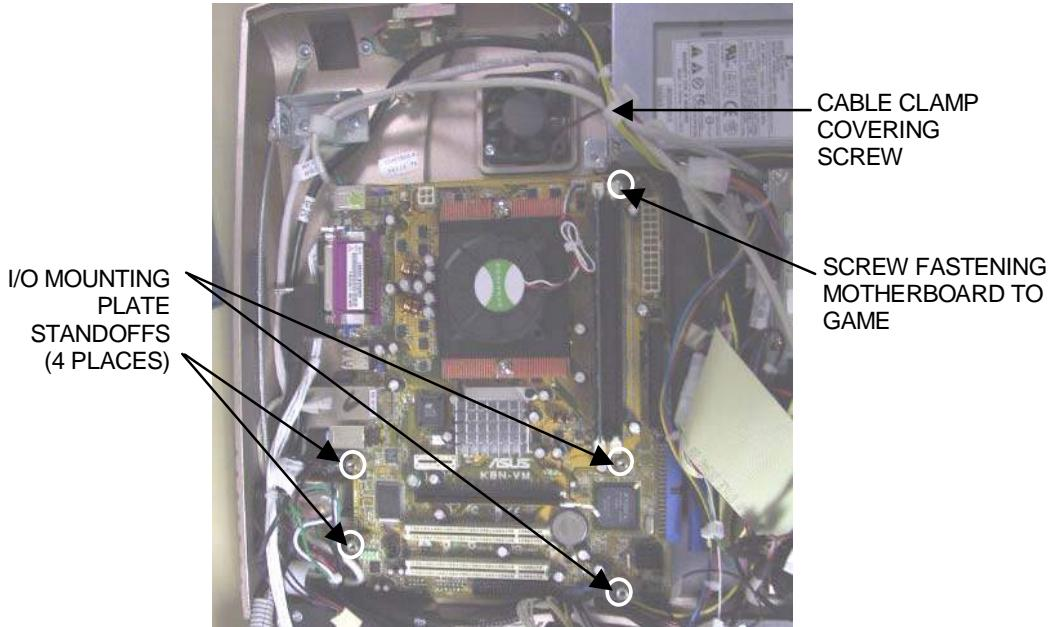
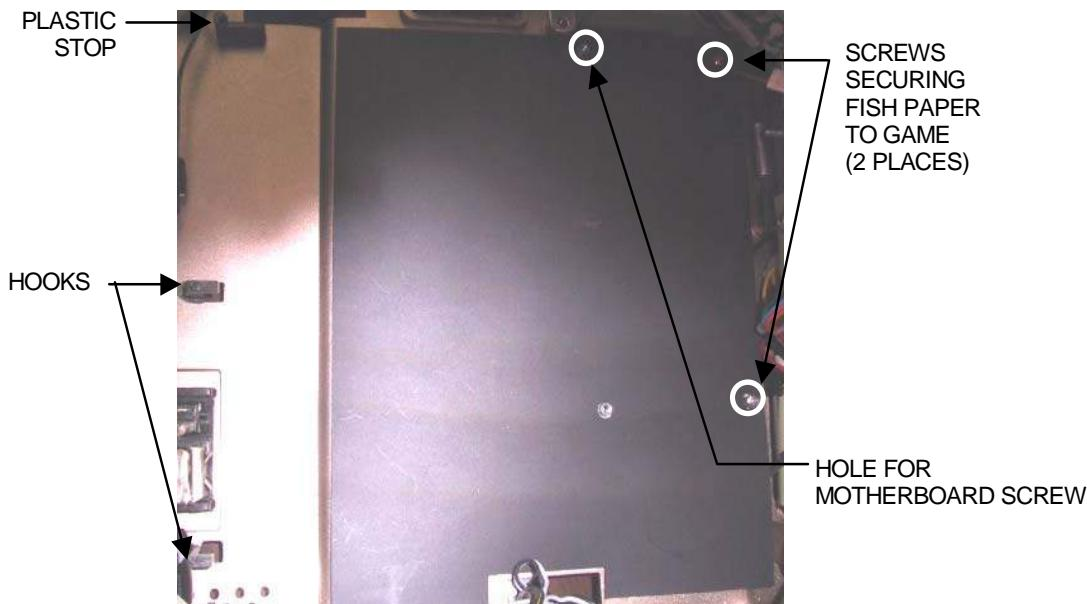

FIGURE 8 -ASUS MOTHERBOARD ASSEMBLY (4 STANDOFFS & 1 SCREW)
FIGURE 9 - FISH PAPER AND PLASTIC STOPS
7. *If your I/O mounting plate was secured by 4 screws:* Remove the screw securing the cable clamp to the power supply bracket. Remove the screw securing the motherboard assembly to the game, located on the right side of the motherboard (Figure 8).
1. Replace the I/O mounting plate's 4 metal standoffs on the motherboard, and secure with hex nuts. (If your game originally had 3 standoffs supporting the I/O plate, then use the extra standoff that was shipped with your replacement motherboard.) See Figure 8. Situate the motherboard on top of the fish paper, then shift the board to the left until it touches the plastic stops. Lock the board underneath the 2 stops that are shaped like hooks. See Figure 9.
2. Secure the motherboard to the game with one screw, and reconnect all connections. See Figure 8.